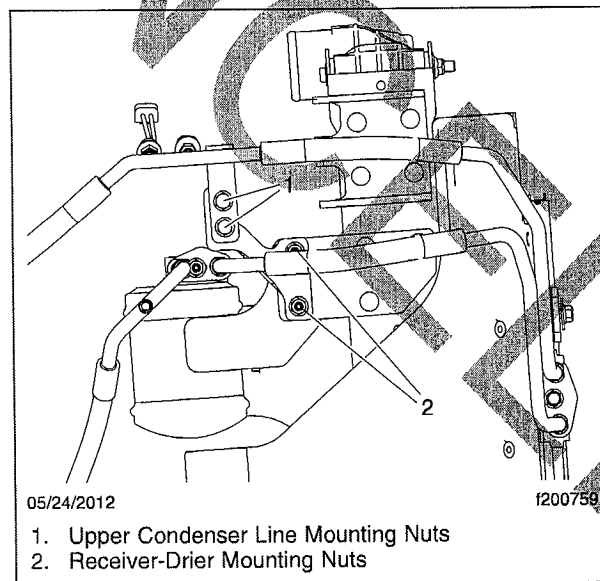

Fig. 2, Receiver-Drier Installation (typical)
- 12.1 Remove the receiver-drier and upper A/C hose mounting nuts, then free the receiver-drier. See **Fig. 2**.